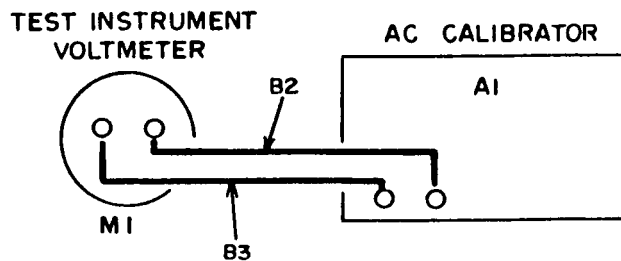

Figure 1. Voltage setup.
- (1) Remove wires from M1 and as shown in figure 1.